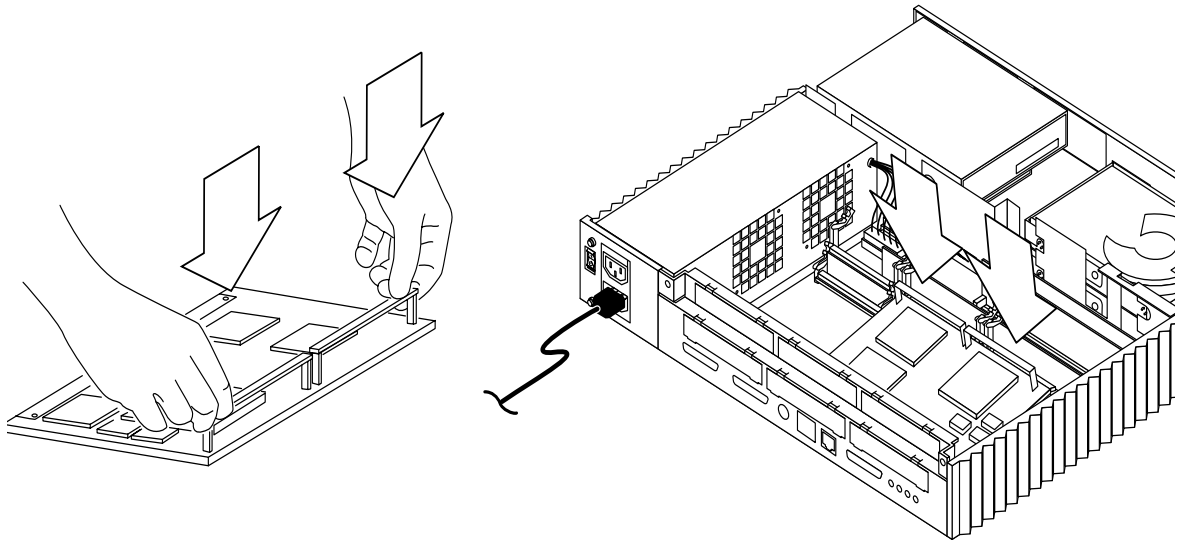
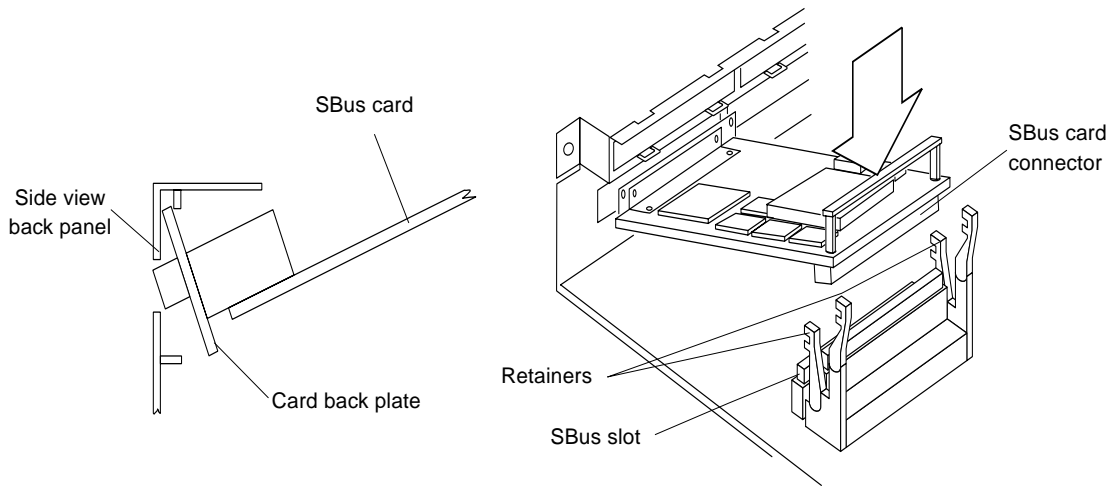

FIGURE 11-17 Installing a Double-Wide SBus Card
FIGURE 11-18 Installing a Single-Wide SBus Card
- a. **Bend one leg of the extractor outward slightly until the hook clears the hole in the SBus card (FIGURE 11-17).**
5. **Push the rear card retainers back on the system board (FIGURE 11-17 and FIGURE 11-18).**
Note – FIGURE 11-17 and FIGURE 11-18 show a double-wide SBus card and a single-wide SBus card, respectively, being installed.
6. Install the Sbus card as follows (FIGURE 11-18):